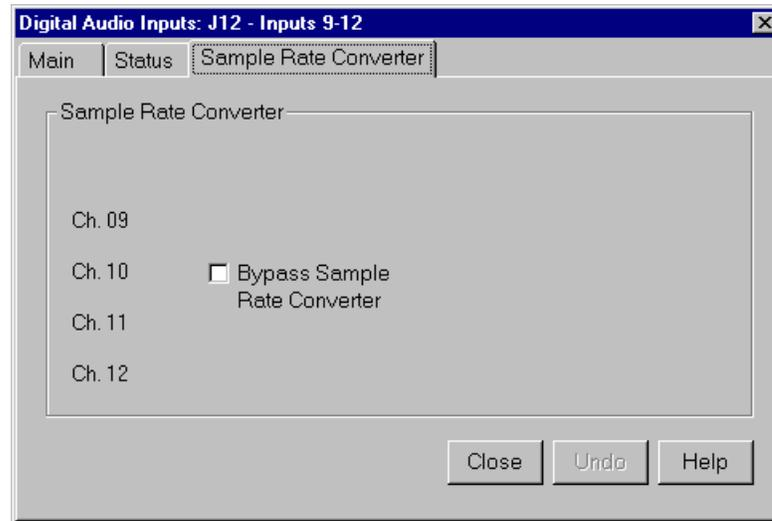

Figure 31. Digital Audio Input dialog box, Sample Rate Converter tab
1. In the Digital Audio Input dialog box, click the Sample Rate Converter tab (Figure 31). By default, the sample rate converter is enabled. The sample rate converter affects all four channel inputs.